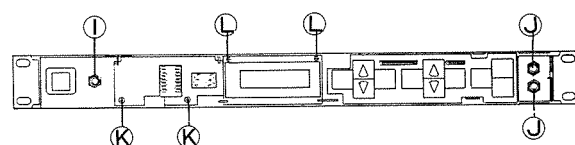

Fig. 4
- Remove the 2 hexagonal nuts **I** (φ9) and disconnect 1 connector for the FP circuit board 3/3 on the AD circuit board, and remove the FP circuit board 3/3. (Fig. 4)
connect 1 connector on the FP circuit board 1/3, and remove the FP circuit board 1/3. (Fig. 4)
- Remove the 2 screws **K** (3×8 bind head screw) and disconnect 2 connectors on the LED ass'y, and remove the LED ass'y. (Fig. 4)
- Remove the 2 screws **L** (2.6×5 pan head screw) and disconnect 2 connectors for the LCD ass'y on the AD circuit board, and remove the LCD ass'y. (Fig. 4)